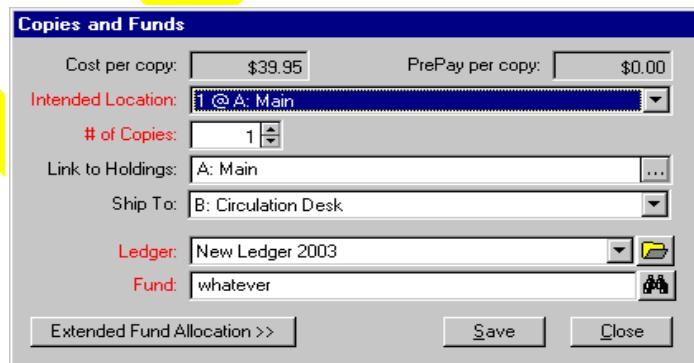

Figure 13-14. Copies and Funds dialog box - ellipsis displayed beside the Link to Holdings field
- The ellipsis button beside the **Link to Holdings** field on the **Copies and Funds** dialog box (Figure 13-14). The **Copies and Funds** dialog box can be displayed from the **Copies/Funds** tab of a line item. See Copies/Funds Tab on page 6-47.